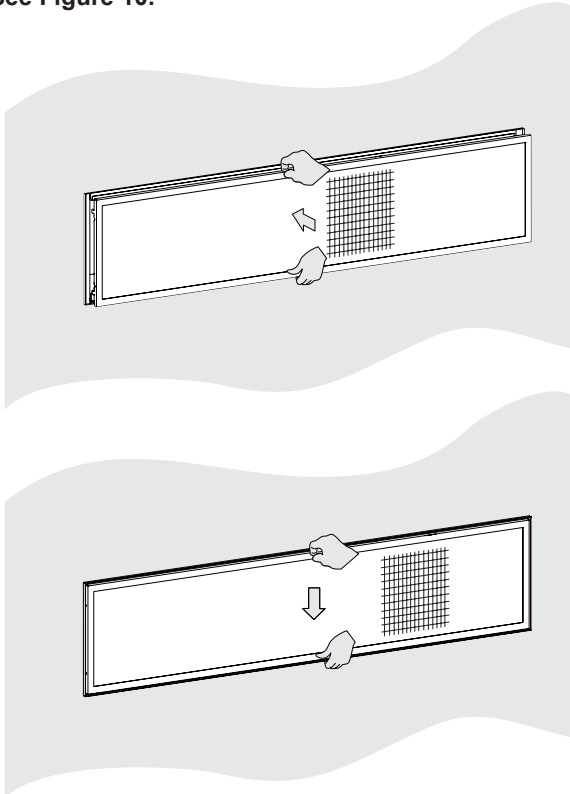

Figure 10
13. Reinstall the Barrier Screen onto the fireplace by lining up the tabs with the slots in the firebox. Push the barrier screen toward the unit and lower it slightly to lock in place. **See Figure 10.**